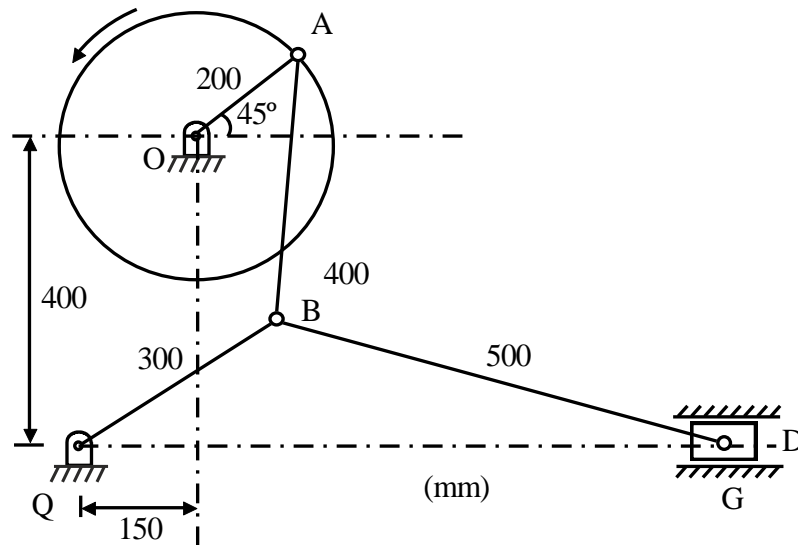

Fig. 4.1
- b) In the toggle mechanism shown in fig 4.1 the crank OA rotates at 210 rpm counter-clockwise increasing at the rate of 60 rad/s^2 . For the given configuration, determine 10